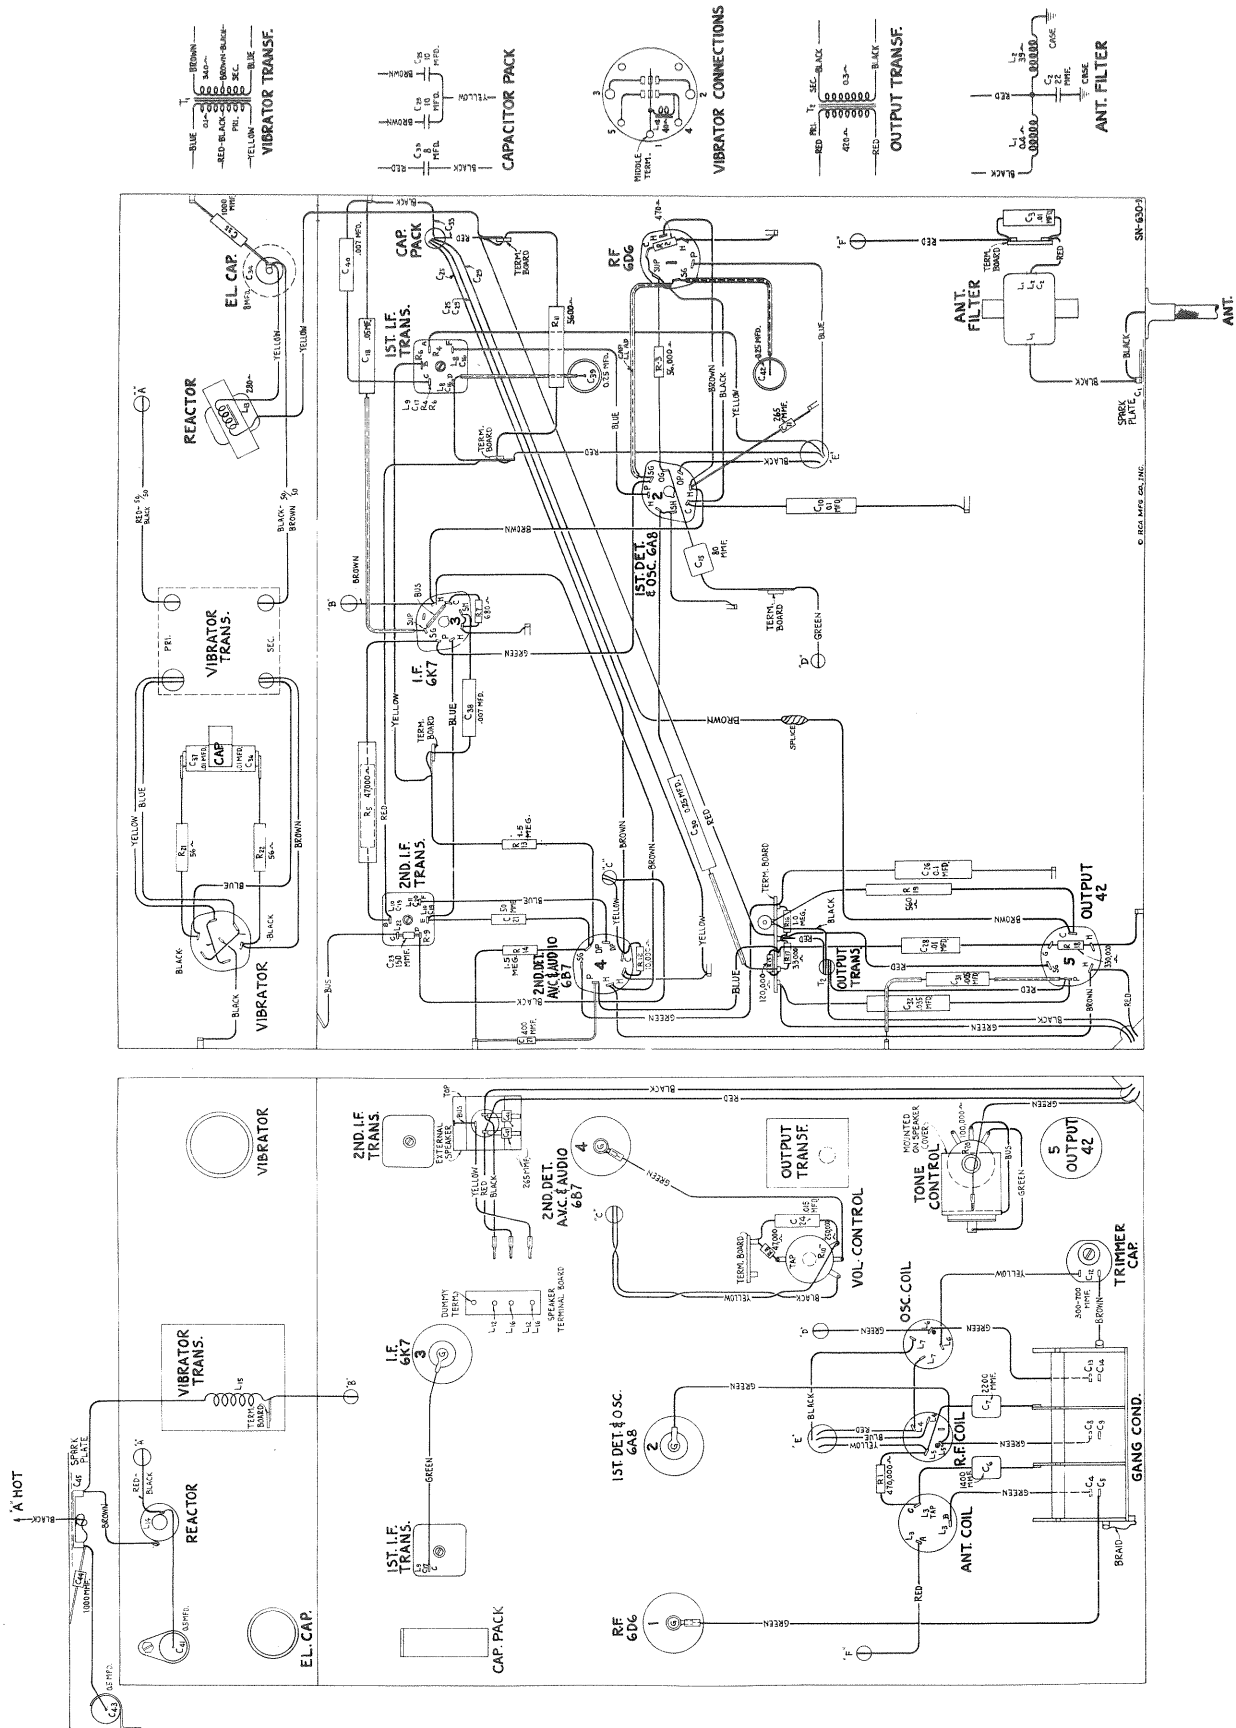

Figure 2—Chassis Wiring Diagram
Remove the tubular paper-covered capacitor C-3 (.01 mfd.), Figure 2, and replace with the small molded type capacitor (500 mmfd.) furnished with Escutcheon Kit for respective model of automobile.
**NOTE:** For r-f alignment of receivers in which the tubular paper condenser C-3 (.01 mfd.) has been replaced by the small molded condenser, 500 mmfd. (change easily identified by reference to Figure 2 and bottom of chassis), use a .001 mfd. capacitor instead of the 175 mmfd. capacitor in series with the antenna lead and test oscillator.